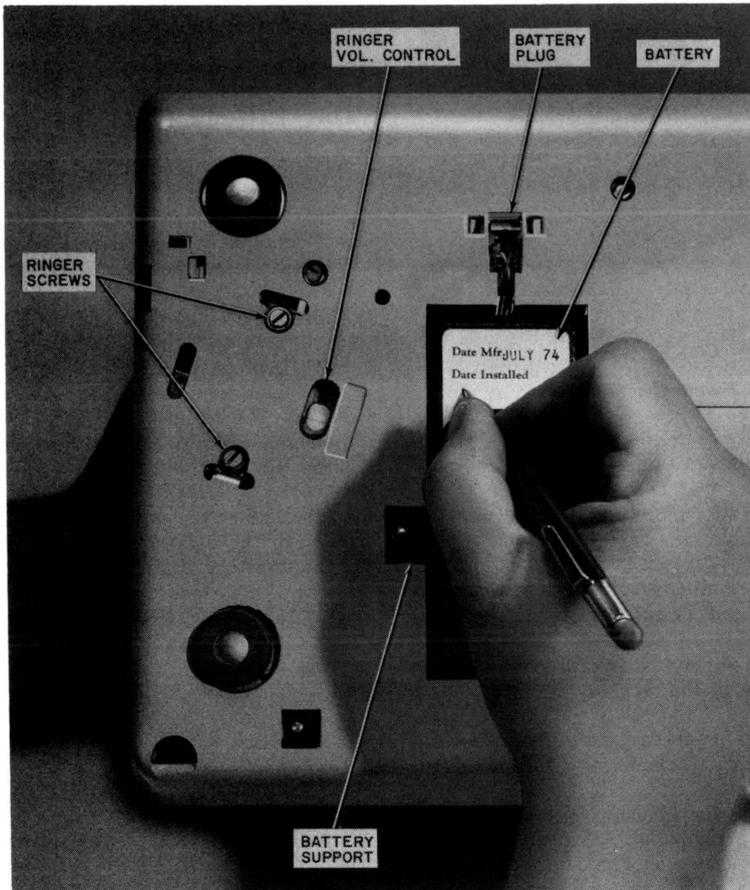

Fig. 6—Telephone Set, Bottom View
- 3.02** The set is shipped from the factory with the battery disconnected. After all wiring changes and modifications have been completed, connect the battery (Fig. 6), by tilting the set up, and inserting the battery plug into the mating jack.
- (c) Under the telephone set (Fig. 6):